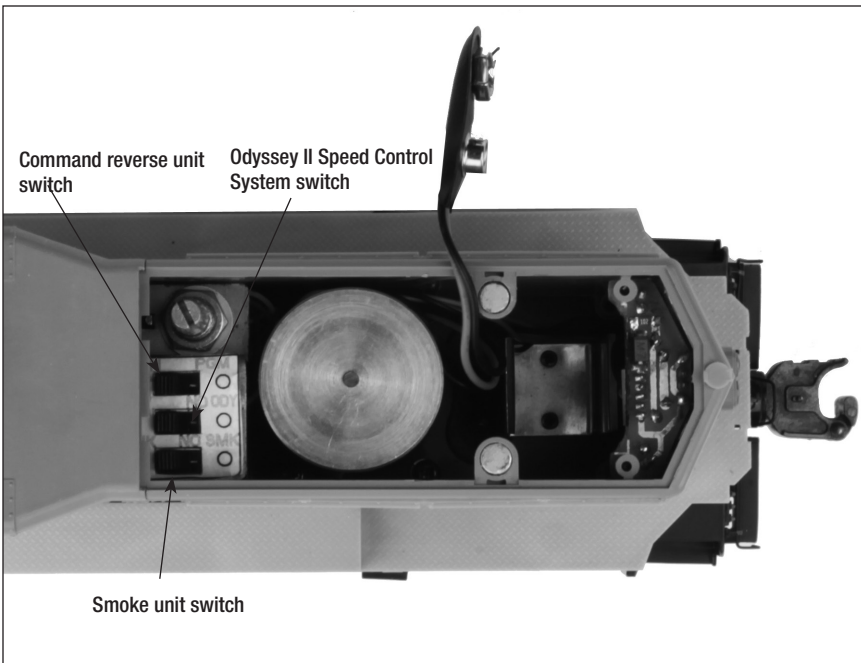

Figure 4. Locomotive switch locations
We recommend that you operate your LEGACY locomotive with Odyssey II Speed Control turned on. You may choose to operate your locomotive without speed control by placing the Odyssey II Speed Control System switch to the NO ODY position. See Figure 4 on page 8 for the location of the switch.
If you prefer to operate your locomotive without smoke, locate the smoke unit switch and slide it to the NO SMK position. Refer to Figure 4 on page 8 for the location of the switch.
The functions of your locomotive's switches are outlined below. Refer to Figure 4 for the location of the switches. *The instructions below are specific to this particular locomotive; note that available features (and switches) may differ from other locomotives and locomotive sets.*
- 1. Slide the Command reverse unit switch on your locomotive to the PGM position. See Figure 4 on page 8.**